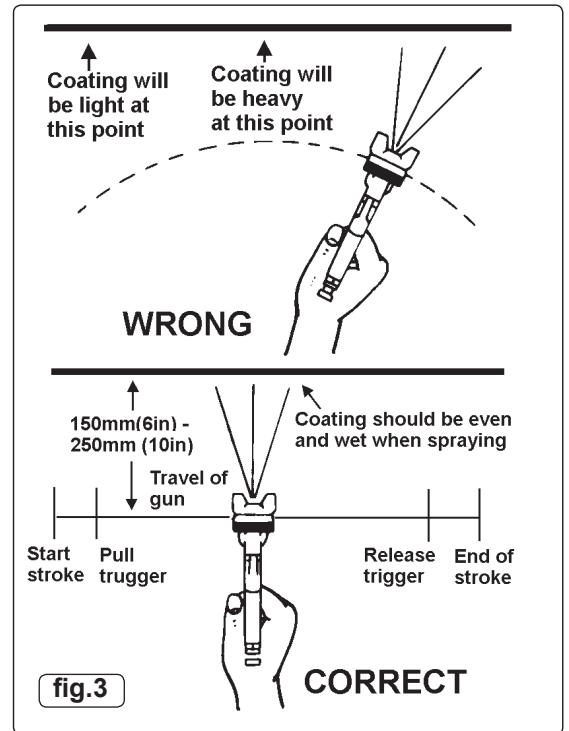

fig.3
- 5.5. For best results, handle the gun correctly. It should be held perpendicular to the surface being sprayed and moved parallel to it. Start the stroke before squeezing the trigger and release the trigger before finishing the stroke. This will give accurate control of the gun and material (fig.3).